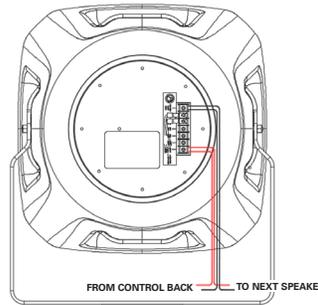

Figure 5
3. Unwind the included speaker wire located in the back of the control rack and route the end of the wire with bare copper ends to the closest speaker. Locate another spool of wire and connect them both to the first speaker as shown in Figure 5.